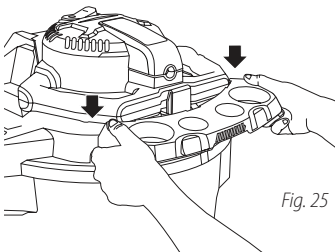

Fig. 25
60. Take tool holder **18** and slide over notches located on rear of tank. **Fig. 25.**